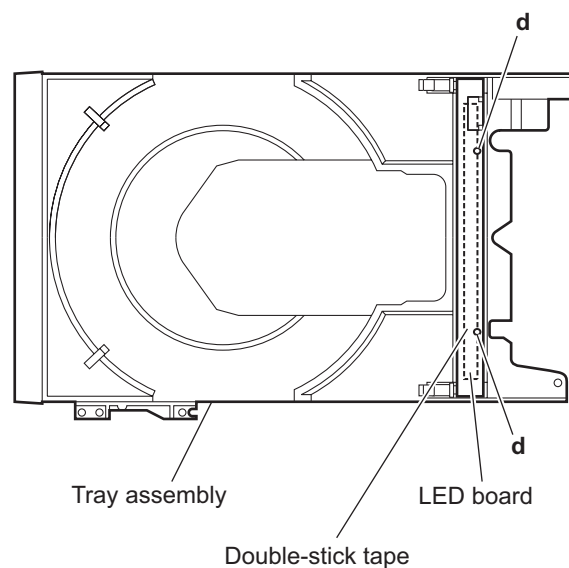

Fig.5
3.2.4 Removing the LED board (See Fig.5)